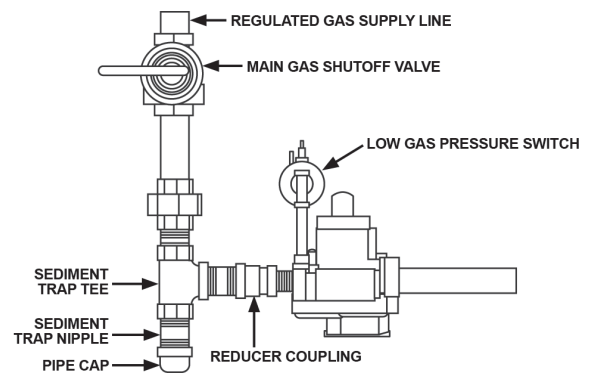

FIGURE 21.
To trap any dirt or foreign material in the gas supply line, a sediment trap must be incorporated in the piping (see Figure 21). The sediment trap must be readily accessible and not subject to freezing conditions. Install in accordance with recommendations of serving gas suppliers. Refer to the latest version of the National Fuel Gas Code.
1. For test pressures exceeding 1/2 psi (3.45 kPa) disconnect the water heater and its Main Gas Shutoff Valve from the gas supply piping system during testing, see Figure 21. The gas supply line must be capped when disconnected from the water heater.
1. Close the Main Gas Shutoff Valve, see Figure 21.
3. Close the Main Gas Shut Off Valve, see Figure 21.
4. Wait five (5) minutes for any residual gas to clear.